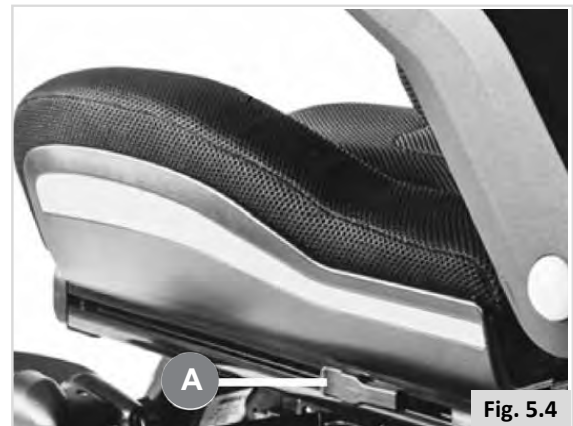

Fig. 5.4
- Pull the plastic lever that is attached to the aluminum seat side rails backwards (Fig.5.4 - A).